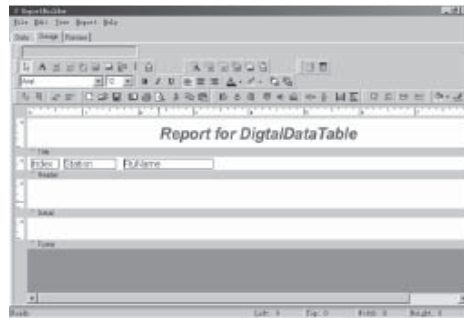

Fig. 8-14 Design the Head of the Report
3.2 Design the Head of the Report. For example, as in Fig. 8-14, set the labels such as $i^{\circ}Index_{i\pm}$, $i^{\circ}Station_{i\pm}$, $i^{\circ}FtuName_{i\pm}$ and so on.